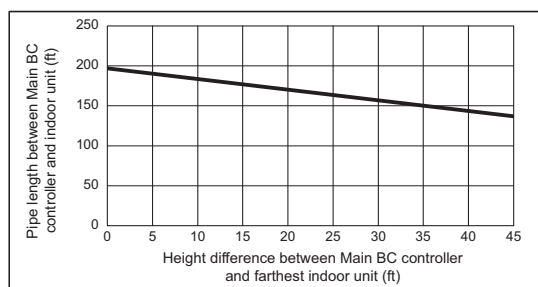

Fig. 2
*2. Details refer to Fig. 2.
*9. When the piping length or the vertical separation exceeds the limit specified in Fig. 2, connect a sub BC to the system. The restriction for a system with a sub BC connection is shown in Fig. 3. When a given system configuration falls within the shaded area in Fig. 3, increase the size of the high-pressure pipe and the liquid pipe between the main BC and sub BC by one size. When using P12, P15, P18, P36, or P48 model of indoor units, increase the size of the liquid branch pipe between the sub BC and indoor unit by one size.
When using indoor models P54 or larger, the restrictions shown in Fig. 2 cannot be exceeded.
*9. When the piping length or the vertical separation exceeds the limit specified in Fig. 2, connect a sub BC to the system.